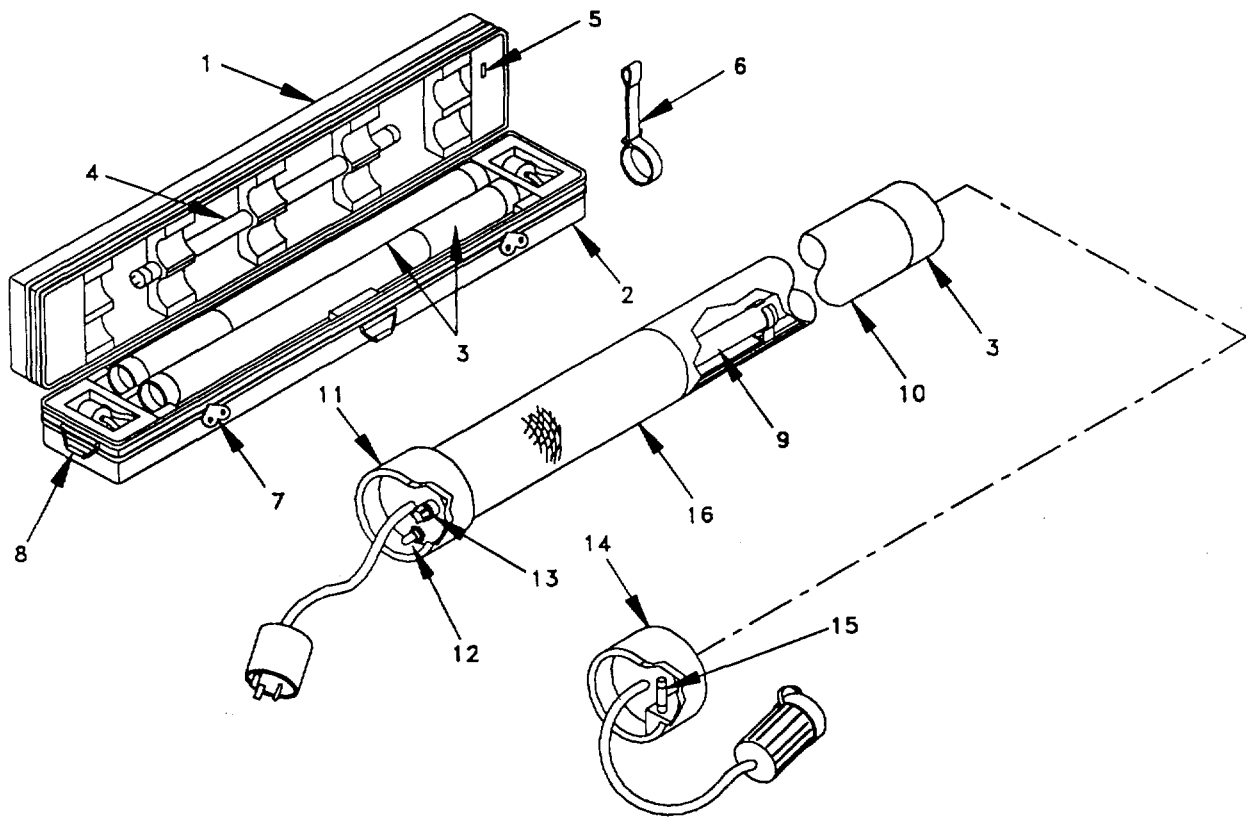

Figure 1-3.
c. *Light Set, Type II.* The major components of the light set (1) are illustrated in Figure 1-3. The light set (1) consists of a storage container (2) and two luminaires (3).